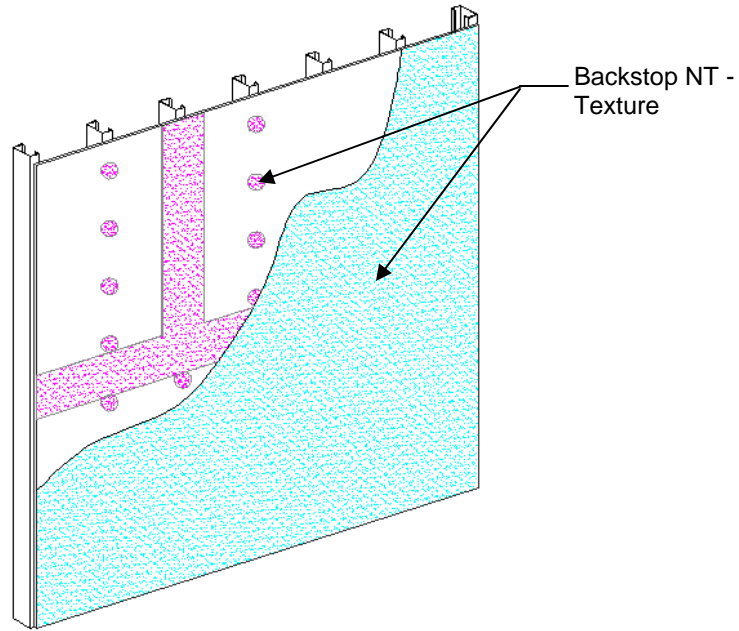

Figure 16
- c) Use a coarse, open-cell foam roller cover with a 10 mm (3/8 in) foam nap (FoamPRO roller #58). Apply a uniform, continuous film of Backstop NT – Texture over the entire surface of the sheathing, concrete or masonry, including the previously treated areas – Figure 16. **NOTE: If the roller pulls material back out of the sheathing joints, it indicates that the joint material is not sufficiently dry.**